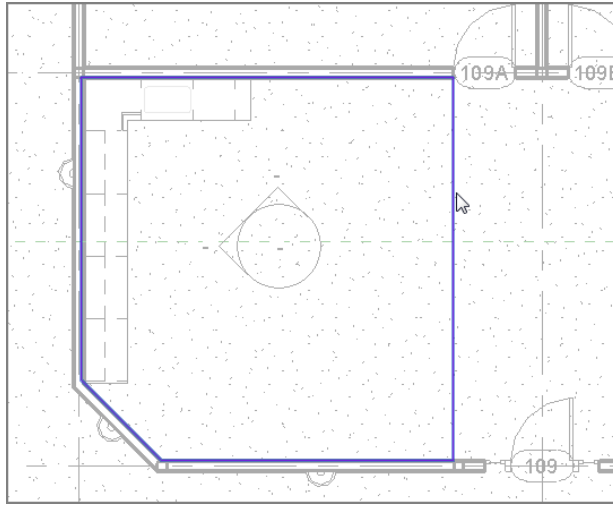

FIGURE 9.69: Drawing the perimeter of the alternate floor material
3. Click the Line button on the Draw panel. Draw a continuous line around the kitchen, as shown in Figure 9.69.